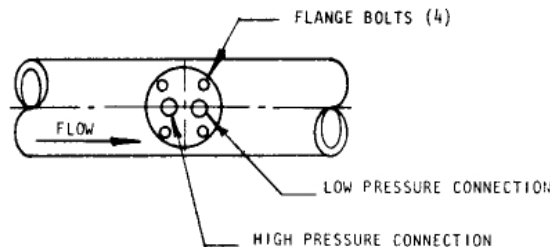

FIGURE 4.3 24D/25D FLANGE ORIENTATION
4.4.3 Tack weld the weld neck flange onto the Weld-O-Let so that the four holes on the flange straddle the pipe centerline. An imaginary line drawn through any two adjacent holes should run parallel to pipe centerline or perpendicular to it. Refer to Figure 4.3.